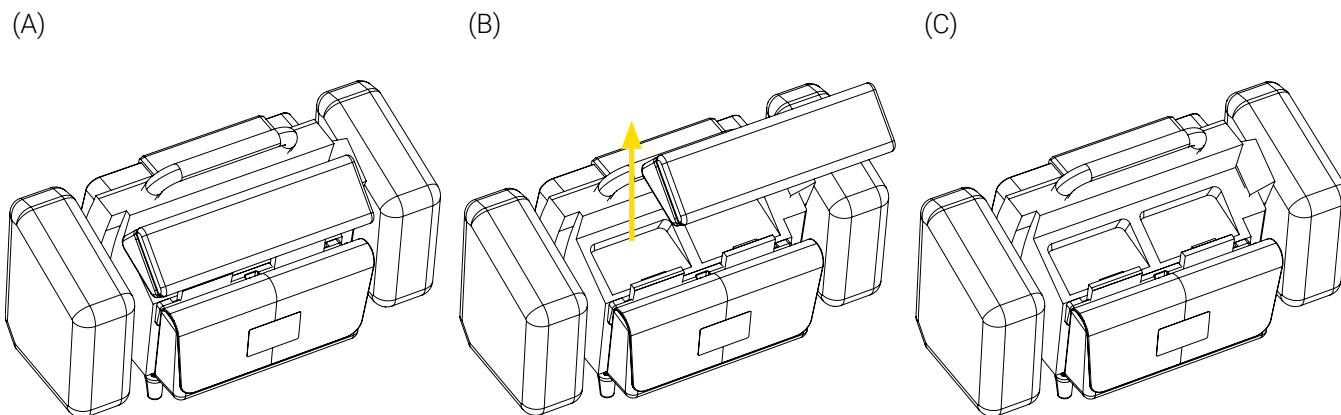

Figure 4: Removing the top accessory bag
1. If there is a top bag installed on the LIFEPAK 15, remove it (Figure 4). Refer to the medical device manufacturer documentation for proper use and operation.